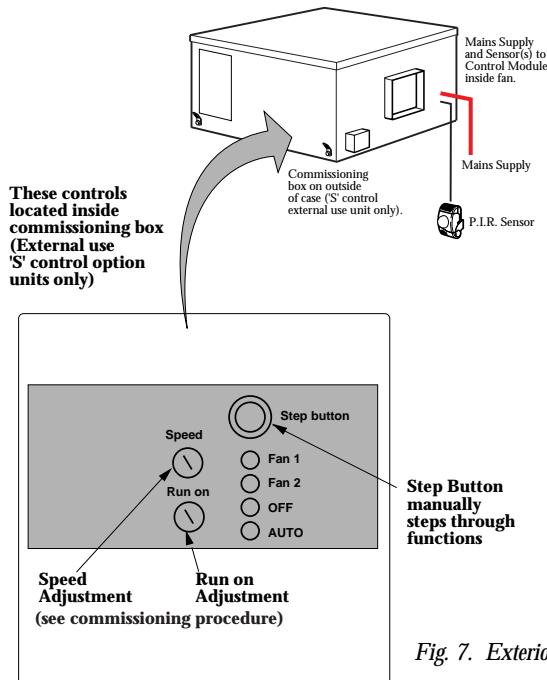

Fig. 7. Exterior commissioning control box panel.
### Using the Step button (see fig. 7).
### Adjusting the air volume flow rate (see fig. 7).
1. The commissioning controls are located in a small exterior case mounted control box. (See fig.7). Remove the box cover. The controls available on this panel include:
4. Press the step sequencing button several times until **only** the 'FAN 1' light is illuminated and the 'AUTO' light is off. (See detail of control panel Fig. 7).
6. **Set the Run on timer control.** (Adjustable 5-60 min). (See detail of control panel Fig. 7).